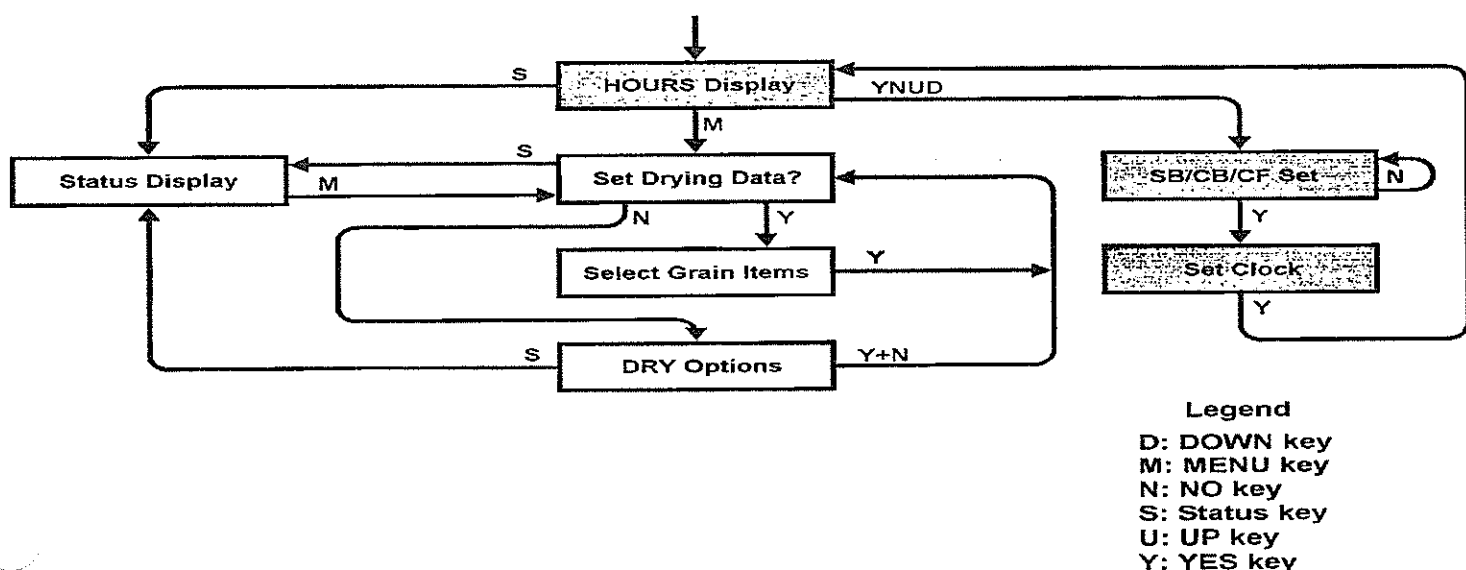

Figure 4-D Options available after the temperature information has been set.
4.2.2.2.3.6 Exit from Grain Parameter Set - Figure 4-D illustrates the options available after setting the drying temperature information. A single depression of **YES** will return the unit to the condition described Section 4.2.2.2.3 with the display being: *Set Drying Data?* If **YES** is again pressed, the grain parameter setting sub-menus will again become active. Pressing **NO** moved the controller on to the drying option.